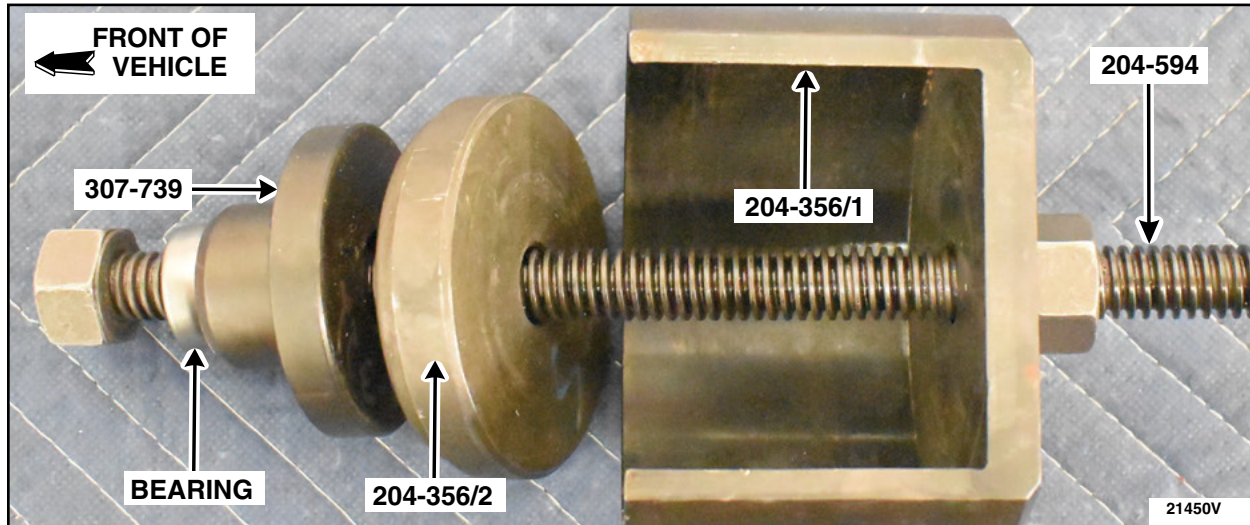

FIGURE 16
24. Using the Special Service Tool: 204-594 Forcing screw, 204-356/1 Remover/Installer, Radius Arm Axle Bushing, 204-356/2 Remover/Installer, Radius Arm Axle Bushing, 307-739 Installer, R3 Bearing, and 205-153 Adapter for 303-224 (Handle) and press out the rear axle assembly subframe bushing. See Figure 16.